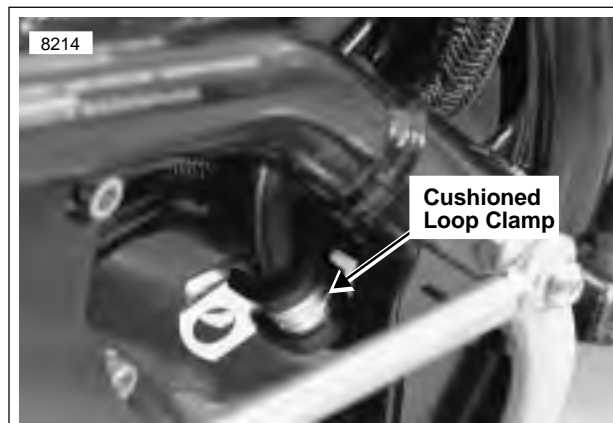

Figure 2-54. Loop Clamp Orientation Before Installation
5. See Figure 2-54. Install loop cushioned clamp to brake line and then to bolt side of tie bar fasteners. Loop clamp is oriented down and to the left. Install tie bar to frame with bolt, washer and loop cushioned clamp on lower side of tie bar and **new** locknut on upper side of tie bar. Tighten tiebar bolt to 30-33 ft-lbs (41-45 Nm).